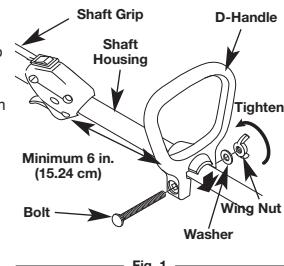

Fig. 1
- Push the D-handle down onto the shaft housing so that the squared bolt hole in the handle is to the right (Fig. 1).
- Insert the shoulder bolt into the squared hole in the handle and push through. On the left side of the handle, place the washer on the bolt, then screw the wing nut onto the bolt. Do not tighten until you make the handle adjustment (Fig. 1).